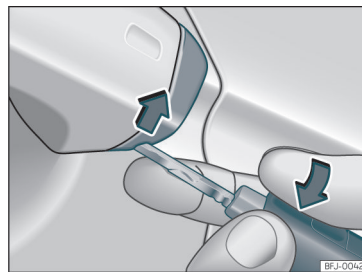

Fig. 79 Driver door handle: lever the cover off
- Insert the key shaft into the lower opening in the cover on the driver door handle >>> **Fig. 79** then remove the cover upwards.